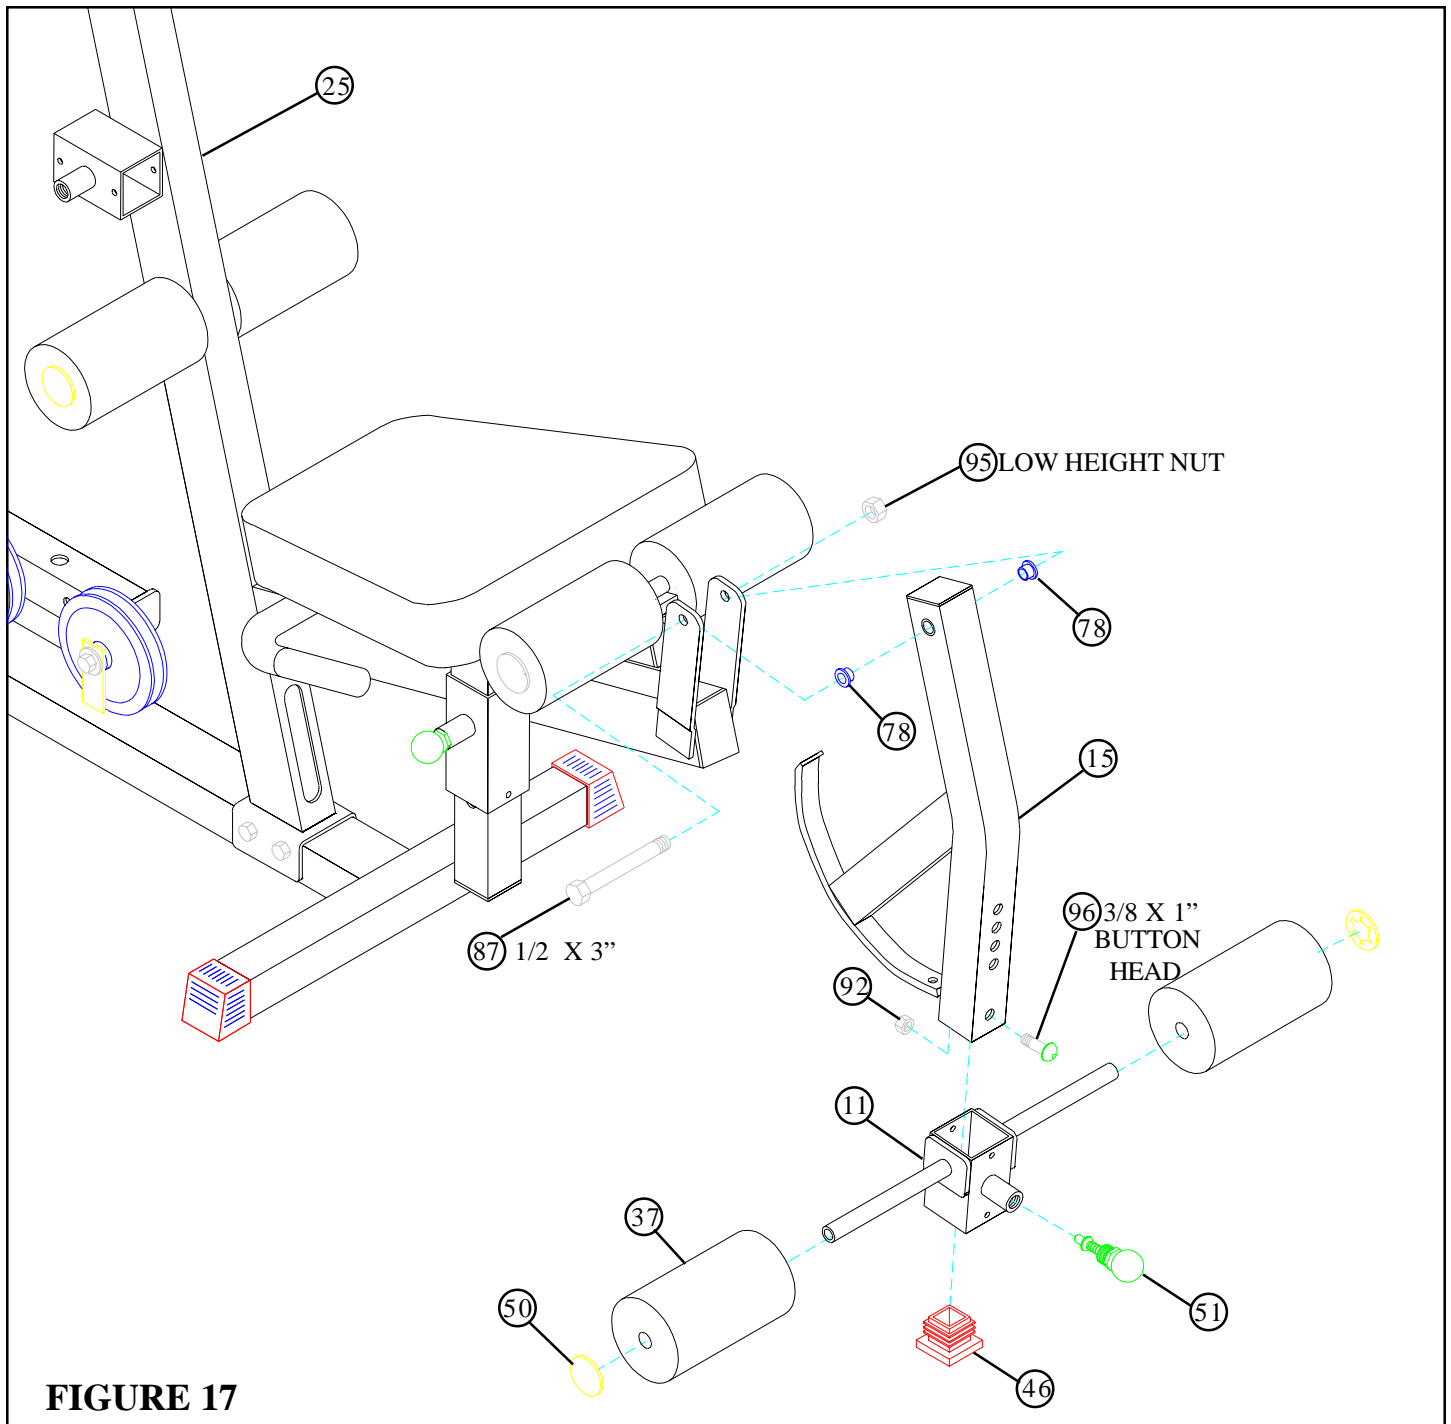

FIGURE 17
- Insert two 1/2" FLANGE BEARINGS (78) into the LEG CURL/EXT (15) as shown on FIGURE 17.
- Assemble the LEG CURL/EXT (15) to the FRONT UPRIGHT (25) using one 1/2 X 3" BOLT (87) and one 1/2" LOW HEIGHT NUT (95). (**NOTE: Tighten the connection enough to remove play, yet allowing the LEG CURL/EXT to rotate freely.**)
- Assemble two ROLLER PADS (37) to the ROLLER PAD ADJUST (11) using two STARLOCK COLLARS (50).
- **SECURELY** assemble one 3/8" SPRING PIN (51) to the ROLLER PAD ADJUST (11) as shown in FIGURE 17.
- Slide ROLLER PAD ADJUST (11) over the LEG CURL/EXT (15) until the spring pin pops into the holes. See FIGURE 17.
- **SECURELY** assemble one 3/8 X 1" BUTTON HEAD CAP SCREW (96) and one 3/8" LOCK NUT (92) to the last hole in the LEG CURL/EXT (15) as shown in FIGURE 17.
- Insert one 2" SQ. END CAP (46) into the end of the LEG CURL/EXT (15) as shown in FIGURE 17.